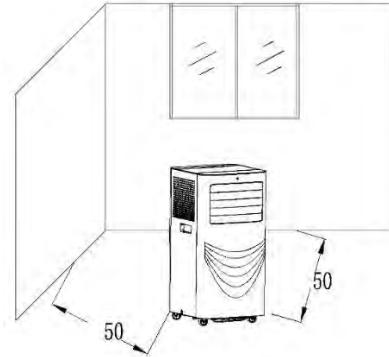

Fig.5
- 1) Move the machine with installed heat pipe and fittings before the window, and the distance between the body and walls or other objects shall be least 50 cm (as shown in Fig.5).